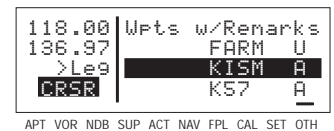

Figure 3-178
- Turn on the cursor and position it over the desired waypoint (figure 3-178). If there are more than three airports with remarks, you will have to scroll the cursor down the list.